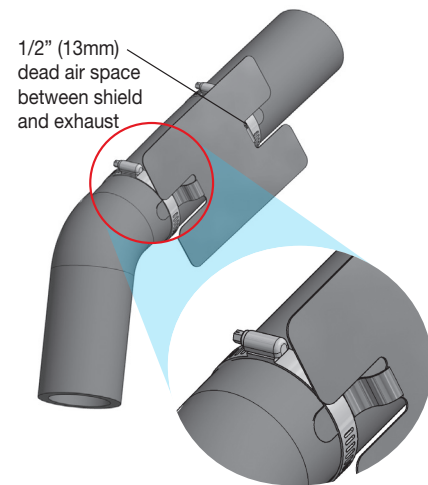

Fig. 30
2. Bend tabs to provide a dead air space between exhaust pipe and heat shield. (Fig. 30) Attach the heat shield to the exhaust pipe using the clamps. Bend the heat shield for maximum clearance to the air spring.